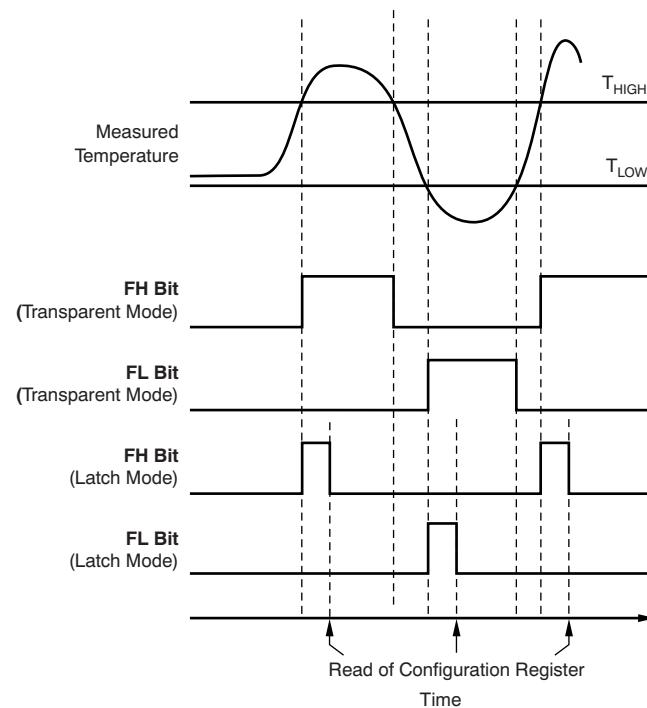

Figure 11. Temperature Flag Functional Diagram
The TMP104 contains a watchdog function that monitors device temperature and compares the result to the values stored in the temperature limit registers (T_{HIGH} and T_{LOW}) in order to determine if the device temperature is within these set limits. If the temperature of the TMP104 becomes greater than the value in the T_{HIGH} register, then the flag-high bit (FH) in the Configuration Register is set to '1'. If the temperature falls below value in the T_{LOW} register, then the flag-low bit (FL) is set to '1'. If both flag bits remain '0', then the temperature is within the temperature window set by the temperature limit registers, as shown in Figure 11.
The T_{HIGH} and T_{LOW} registers are used to store the temperature limit thresholds for the TMP104 watchdog function. At the end of each temperature measurement, the TMP104 compares the temperature results to each of these limits. If the temperature result is greater than the T_{HIGH} limit, then the FH bit in the Configuration Register is set to '1'. If the temperature result is less than the T_{LOW} limit, then the FL bit in the Configuration Register is set to '1'; see Figure 11.